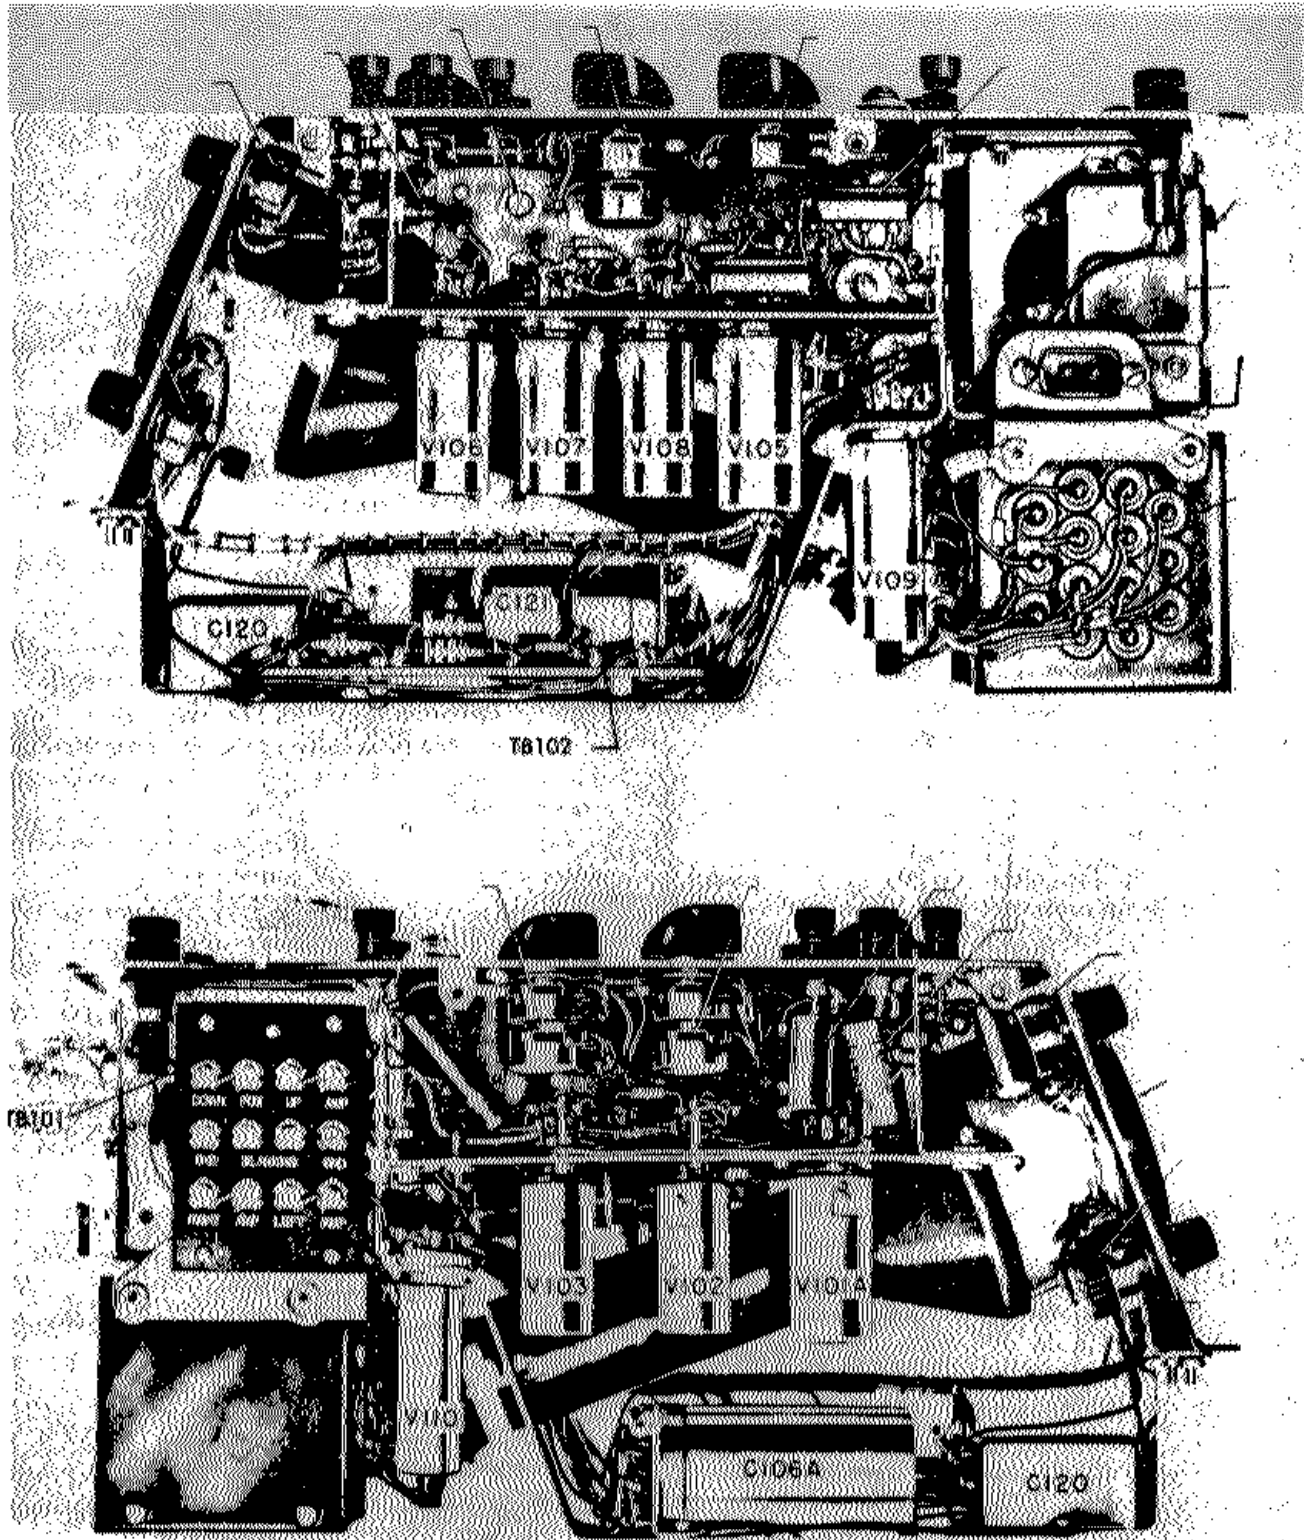

Figure 7-2. Principal Components and Tube Locations
a. REPLACING THE CATHODE RAY TUBE. (See figure 7-2.)
b. REPLACING CAPACITORS. (See figure 7-2.)
- (1) If power supply filter capacitor C-120 is to be replaced, unsolder leads and remove the two capacitor mounting screws on the bottom of chassis.
- (2) Removal of capacitor C-121 requires removal of the capacitor bracket on which C-121 and C-106 are mounted on the bottom of the chassis.
- (3) Removal of C-106 requires removal of the bracket common to C-106 and C-121.
c. REPLACING TRANSFORMER. (See figure 7-2.)
- (1) Unsolder all leads from the transformer terminals, being sure to identify them so that they can be correctly replaced.
- (2) Remove the mounting nuts which secure the transformer (located at the bottom rear) of the main chassis.
- (3) Remove the transformer from the mounting bracket, installing the new transformer.
d. REPLACING TRACE INTENSITY CONTROL. (See figure 7-2.)
- (1) Replacing the trace intensity control, R-133, requires removal of the potentiometer from the control panel.
- (2) Remove the nuts securing the switching bushing on the upper panel. Separate S-104 from R-133 and replace as necessary.